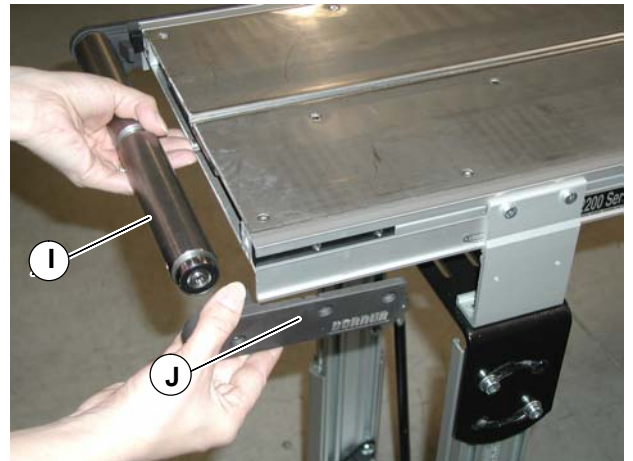

Figure 8
5. Insert the new idler pulley (I of Figure 8) into the head plate on the opposite side.
6. Install the second head plate (J of Figure 8). Leave the (4) head plate mounting screws finger tight.